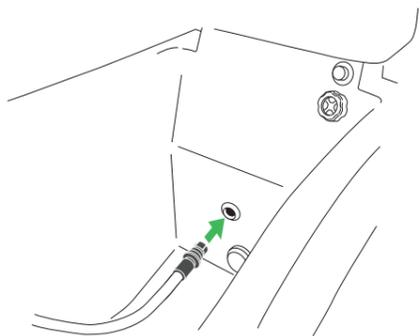

Figure 3
5. **For treatment hose only:** Insert the treatment hose in the Hydromassage system outlet. See Figure 3.